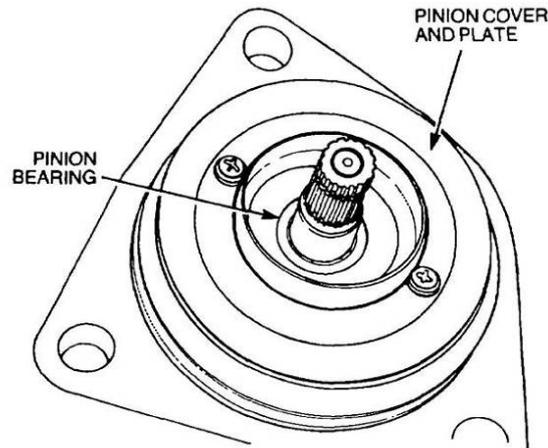

Figure 304 Removal of the Pinion Cover and Plate
- j. Remove the two screws securing the pinion cover and plate to the housing (Figure 304). Remove the cover and plate.